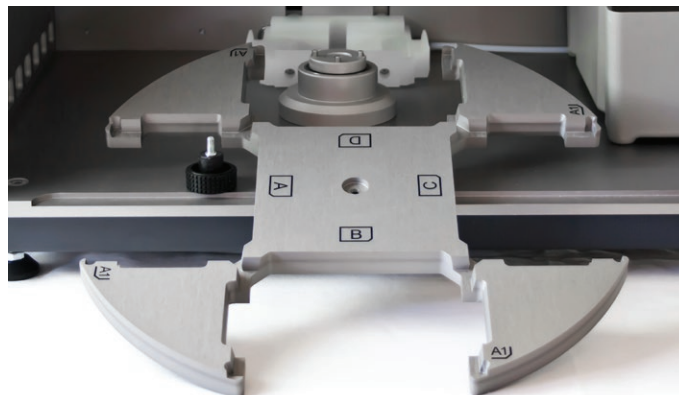

Figure 33. The carousel can be removed for better access when cleaning the interior of the system.
4. Clean the interior of the system, using a soft and clean cloth. The cloth can be dry or lightly dampened with a cleaning solution that is suitable for the residues. If desired, the carousel can be removed for better access by unscrewing the center knob (see Figure 33). **Note:** Only use water, IPA, or ethanol when cleaning the door and the side walls.